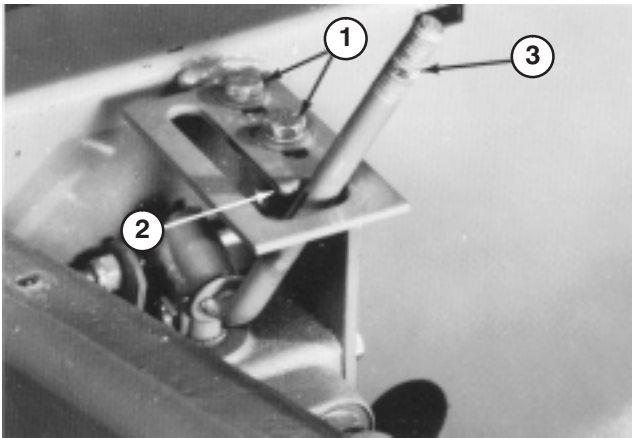

Figure 66
3. Loosen two capscrews on top of the lift lever latch (Fig. 66). Place lever on rounded tip of latch (Fig. 66), and slide latch w/lever forward until stopping resistance is felt. Then tighten capscrews to lock the latch in place. Check for free operation of the lift lever by moving lever from RAISE or TRANSPORT to FLOAT position. Lift lever should just clear rounded position of latch as lever is moved into FLOAT position.